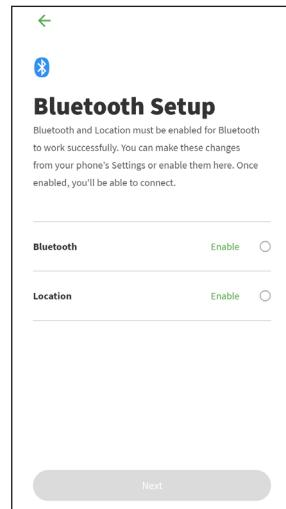
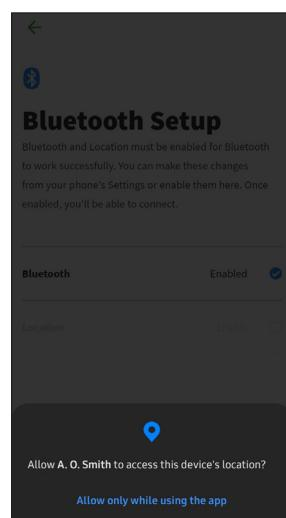

Figure 159 - Enable Options
Figure 161 - Allow Location
- 2** Enable Bluetooth on your device. You may do so by selecting the enable button in app (Figure 159), or manually from your device settings.
- 3** Enable Location on your device. You may do so by selecting the enable button in app (Figure 159), or manually from your device settings. Allow the app to access your device’s location when prompted (Figure 161).